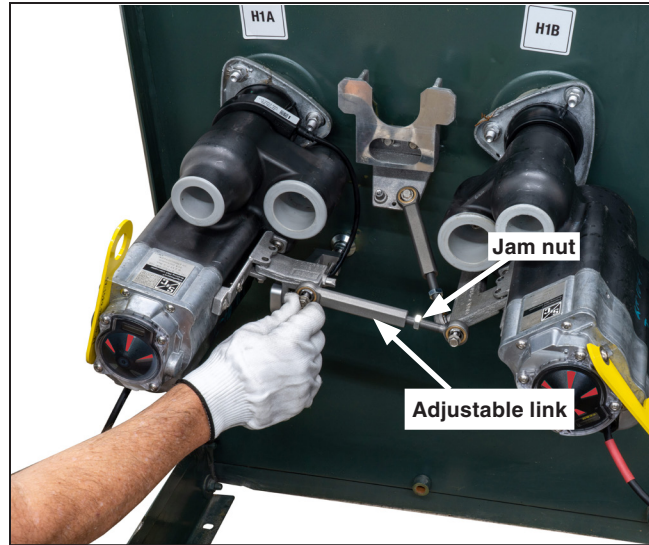

Figure 26. The adjustable cross-brace link.
- STEP 1.** Install the adjustable cross-brace link onto the H1B bushing well interrupter boss with the $\frac{1}{4}$ -20 flange-head bolt finger tight, as shown in Figure 26.